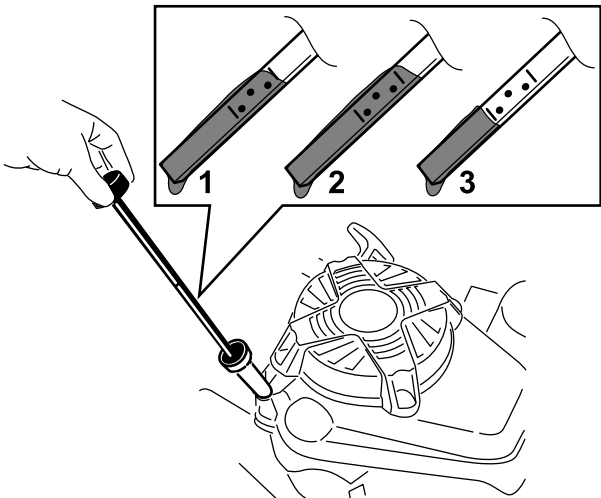

Figure 24
- 3. Remove the dipstick by rotating the cap counterclockwise and pulling it out (Figure 24).
10. Read the oil level on the dipstick (Figure 24).